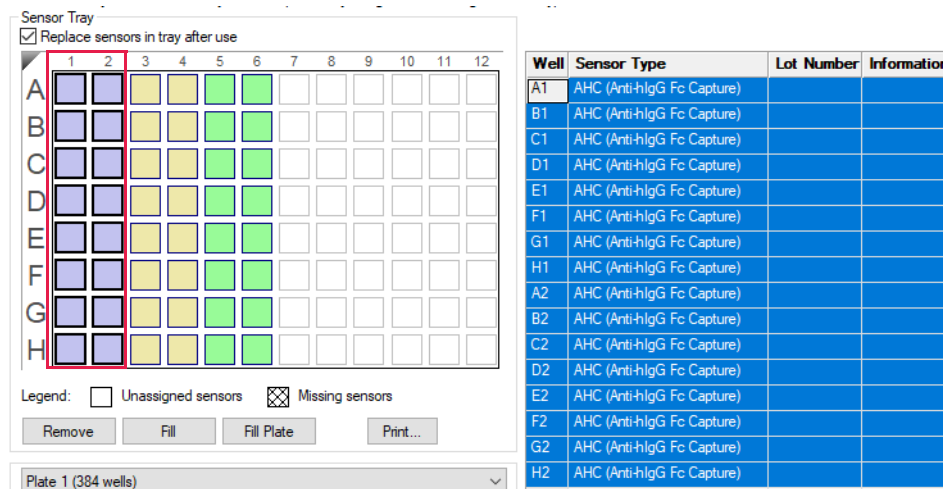

Figure 10-57: Selecting a Sensor Tray Column
1. Select the column location of the biosensor type (see Figure 10-57).